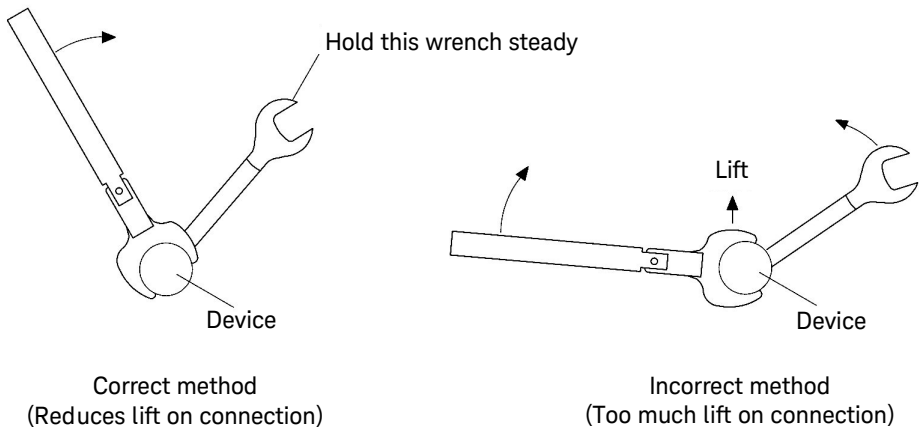

Figure 2-1 Wrench positions
- 3 Position both wrenches within 90 degrees of each other before applying force. Refer to **Figure 2-1**. Wrenches opposing each other (greater than 90 degrees apart) will cause a lifting action which can misalign and stress the connections of the devices involved. This is especially true when several devices are connected together.